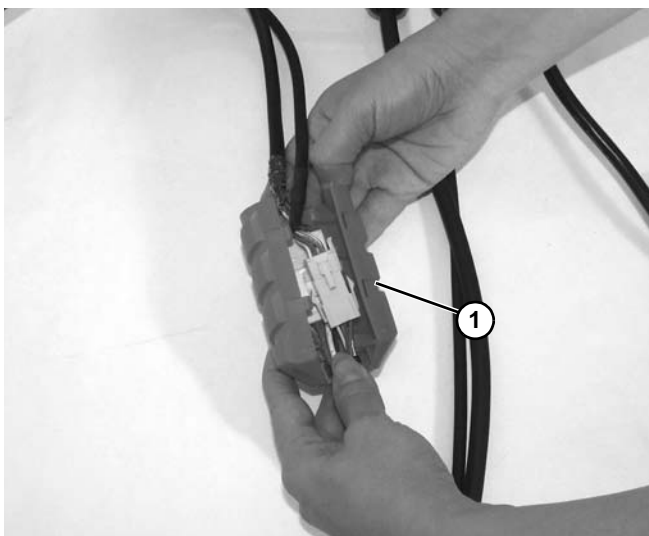

Figure 23
3. Open inner cord cover (**Figure 23, item 1**).